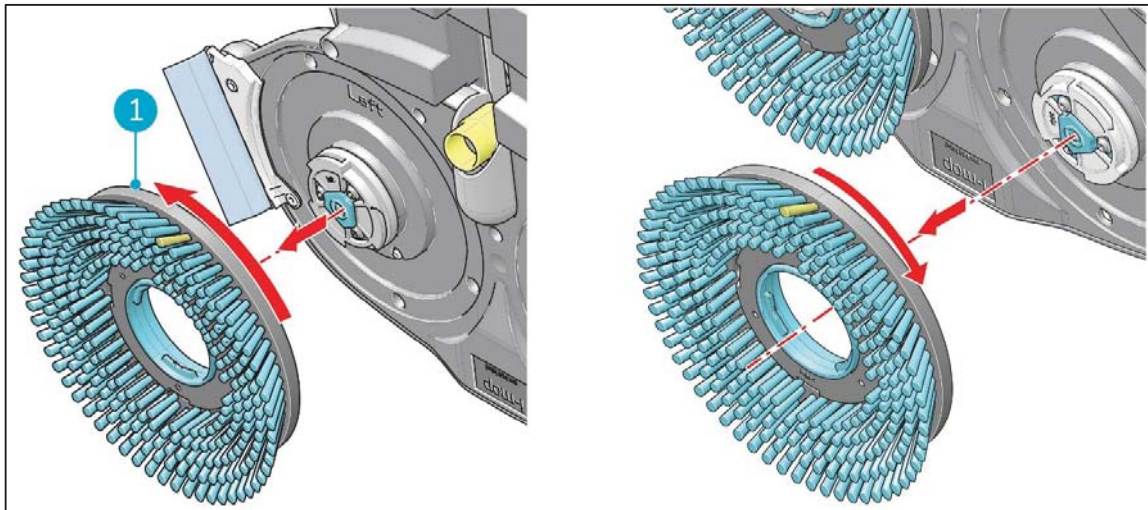

Figure 25
3. Using your other hand to turn the left brush anticlockwise (Figure 25, pos 1) until you feel resistance or see the motor disk turning as well.